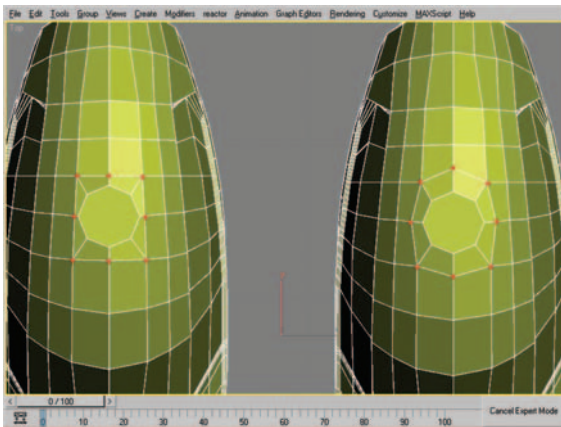

Figure 8.86 Vertices before and after moving with Edge Constraints active.
11. With Edge Constraints still active, select and move one by one the vertices seen in Figure 8.86 (left) so that they are configured as they are shown in Figure 8.86 (right). This “spacing” of the vertices will give a cleaner result.